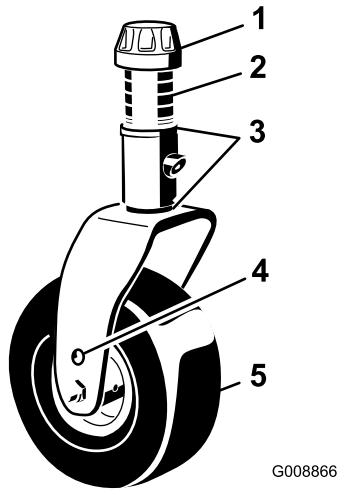

Figure 28
3. Adjust the shims (3 mm or 1/8 inch) on the front caster fork(s) to match the height-of-cut decal (Figure 28); refer to Adjusting the Height of Cut (page 25).